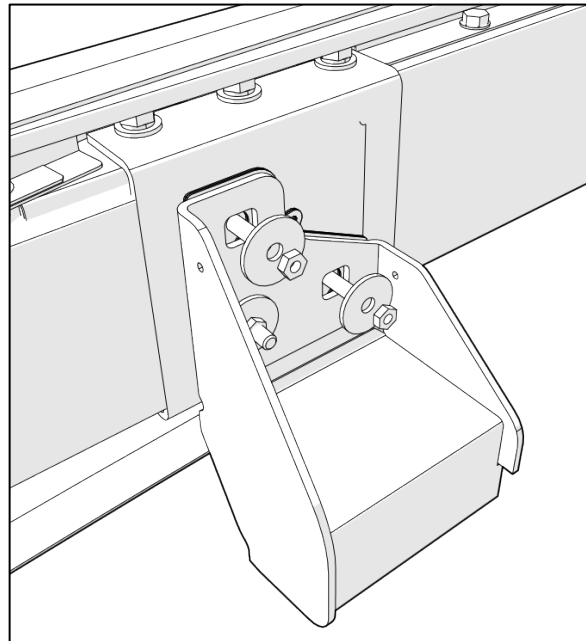

Figure 6
6. On the right side, loosen the bumper nuts (two) as shown on Figure 6. Do not remove the nuts completely.
7. On the left side, loosen the bumper nuts (two) as shown on Figure 6. Do not remove the nuts completely.